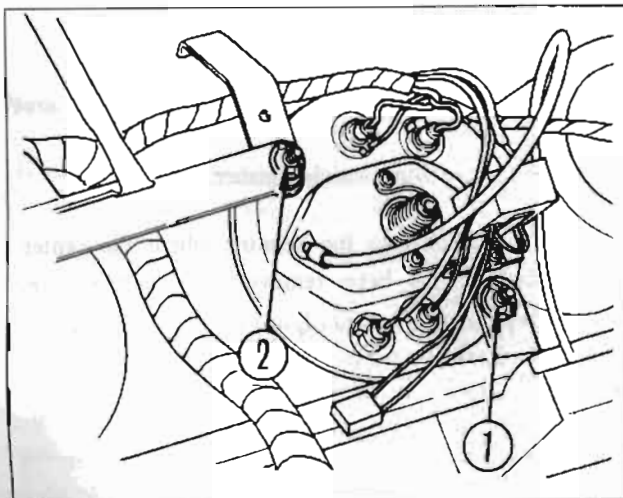

Fig. BE-13 Removing speedometer
Loosen the wing nuts on the meter brackets [① and ② in Figure BE-13] on the upper and lower sides of the reverse side of the speedometer, and withdraw the speedometer from the instrument panel.